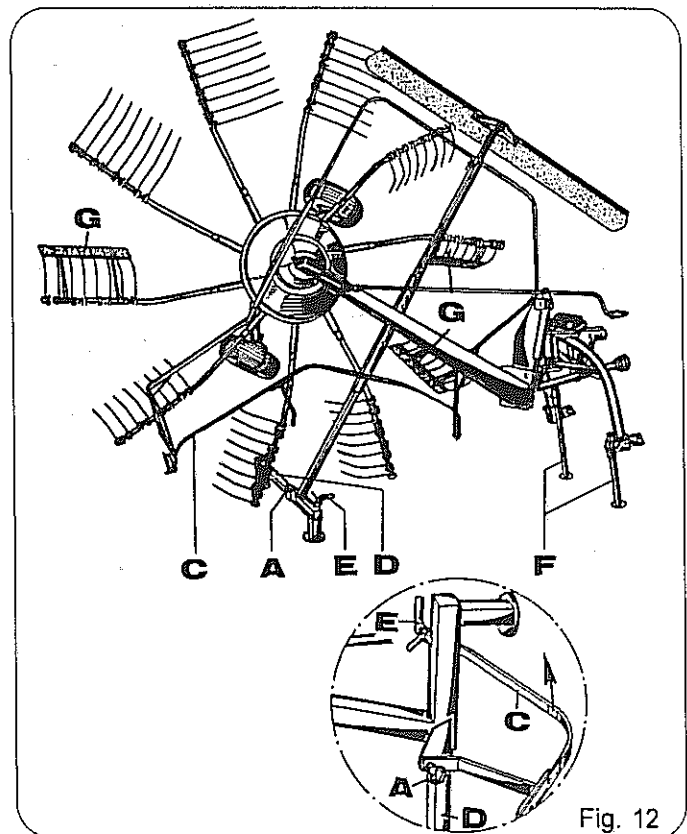

Fig. 12
In order to prevent possible injury from the tine ends the 3 or 6 protection caps are inverted over the tine ends and secured (fig. 12, pos. G).
- Remove the support holder (fig. 12, pos. D)